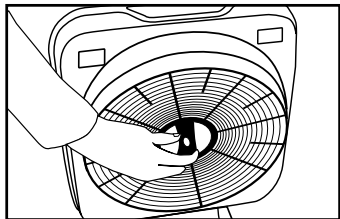

Fig. 10
3. Remove the Nano-Coil filter from the unit by grasping the center handle and pulling out from the center hub. See Fig. 10
5. Replace the Nano-Coil filter. Make sure to align the center of the filter handle with the center hub. Filter handle should be vertical. Be sure the post on the center hub comes through the hole on the filter's handle. See Fig. 10